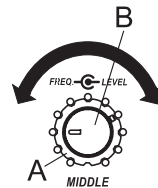

Fig. 16
This EQ control lets you use the inner knob (A) to sweep the controlled frequency from the low-mid through the high-mid range (300 Hz--2 kHz). The outer knob (B) controls the level. When knob B is in the detented middle position, operating knob A will not produce any change in the sound. Fig. 16